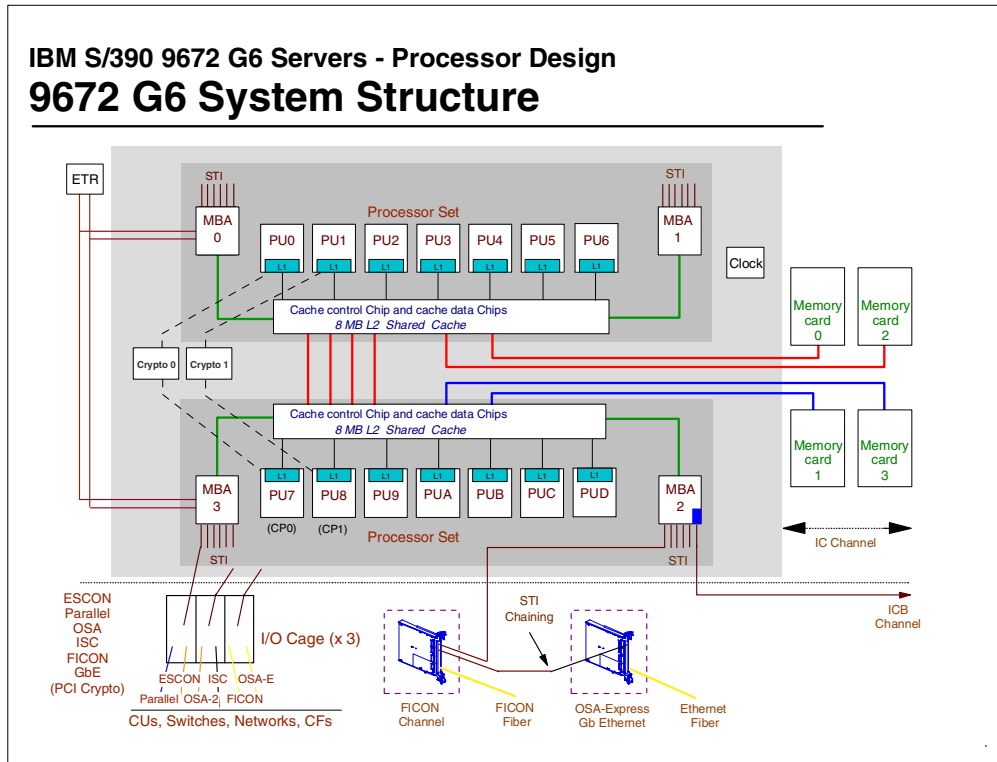

Figure 23. IBM 9672 G6 internal system structure
Figure 23 illustrates the IBM 9672 model G6 processor system structure, showing a logical representation of the dataflow from processing units (PUs), cache level 2 (L2), memory cards and memory bus adapters (MBAs), the MBAs provide the connections memory for the I/O channels through self timed interconnections (STIs).
Each L2 cache, a store-in buffer design, has one storage control (SC) and four Storage Data (SD) chips. The SC chip controls the access and storing of data in the four SD chips. As shown in the Figure 23, the L2 cache is shared by all PUs within a processor set.